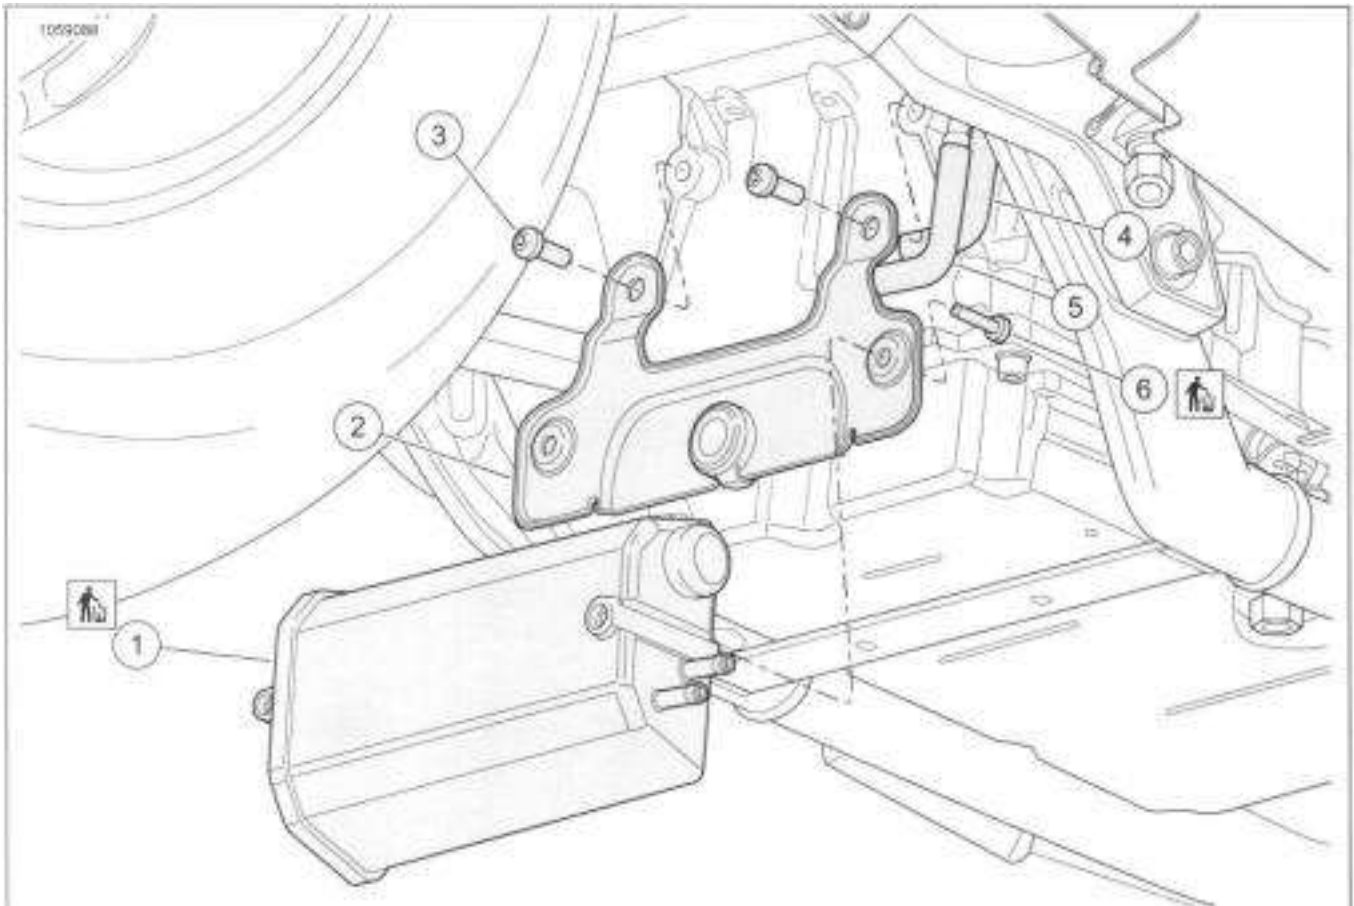

Figure 6-50. Charcoal Canister
1. See Figure 6-50. Remove charcoal canister and bracket assembly.
- b. Remove screws (3).
- c. Remove charcoal canister (1) and bracket (2).
1. See Figure 6-50. If removed, install charcoal canister to bracket.
- a. Install new charcoal canister (1) onto bracket (2).
- b. Install new screws (6). Tighten.